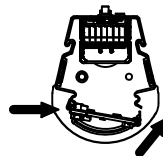

FIGURE 3: BOARD CARRIER
- 6) Snap on LED board carrier by aligning screws in LED board carrier with notches in housing. Then pivot board carrier until opposite side snaps in as shown in Fig 3, making sure no wires are pinched between housing and board carrier.